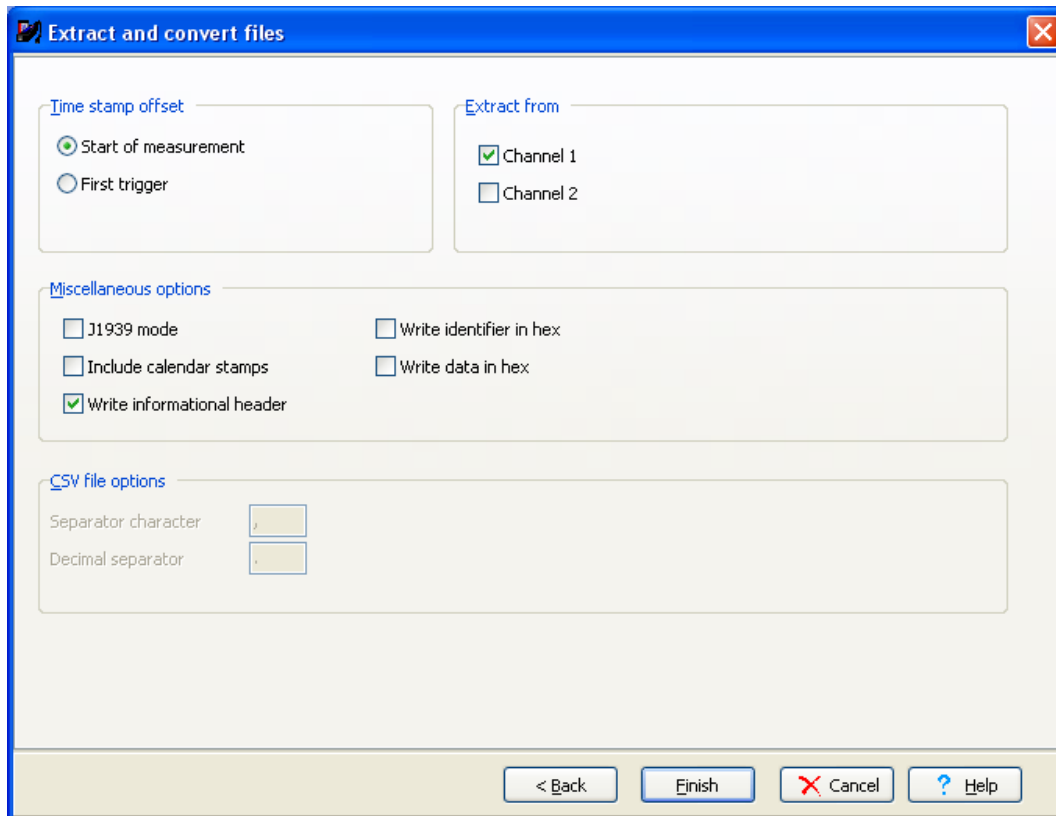

Figure 25. Other settings.
- Let the *Start of measurement* box be checked. See Figure 25.